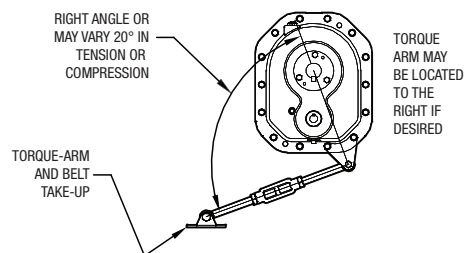

Figure 4 - Angle of Torque-Arm
7. Install torque arm fulcrum on a flat and rigid support so that the torque arm will be approximately at right angles to the center line through the driven shaft and the torque arm anchor screw (Figure 4). Make sure that there is sufficient take-up in the turnbuckle for belt tension adjustment when using V-belt drive.